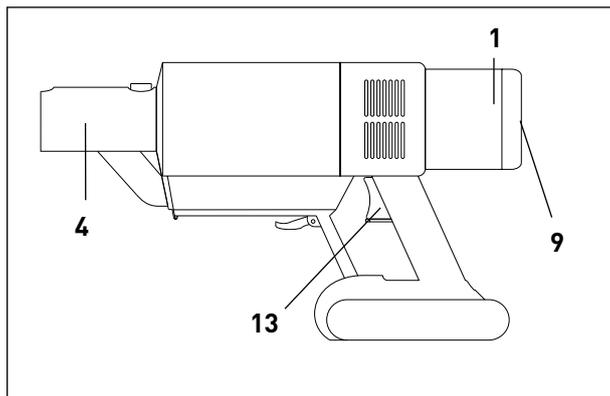

Figure 10
Starting The Machine - Figure 10 - After connecting the adapter and charging the battery (see pages 7 and 8), the machine is ready for use. The on/off switch (13) turns the machine on. A short press of the switch is sufficient, you do not need to press it continuously.
Display and Power Control - Figure 11 - The battery level display and power control buttons are located at the rear of the Suction Unit (figure 10).